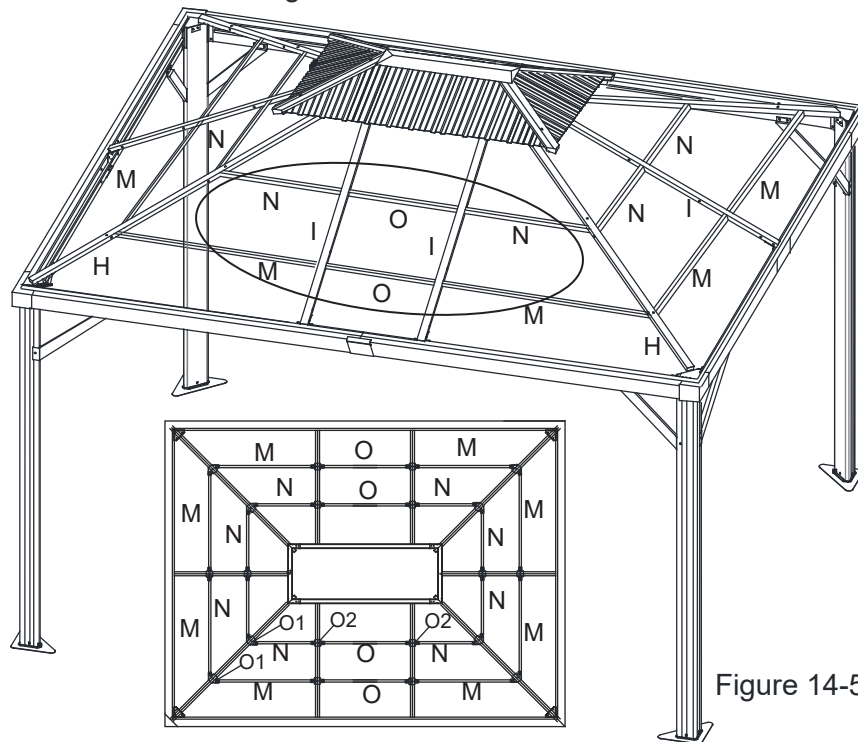

Figure 14-5
13.5: Repeat for all sides. Tighten all Bolts. See Figure 14-5.